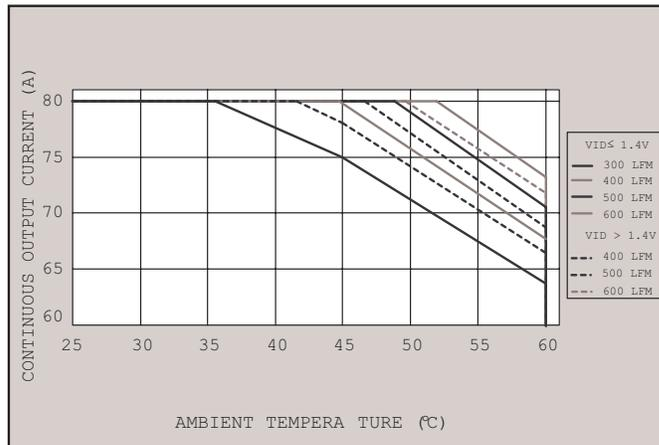

Figure 2: Thermal Derating Curve for VRM10-80-12-PY
- Maximum current requires adequate forced air over the converter. Please consult Figures 2 and 3 for thermal de-rating.